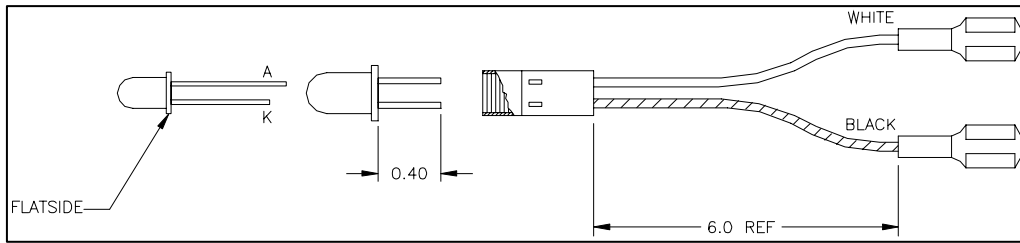

Figure 3-1. LED/Socket Assembly
4. Loosen the screw holding the LED Socket Assembly in the LED/aperture holder and remove the LED Socket Assembly (see Figure 3-1).